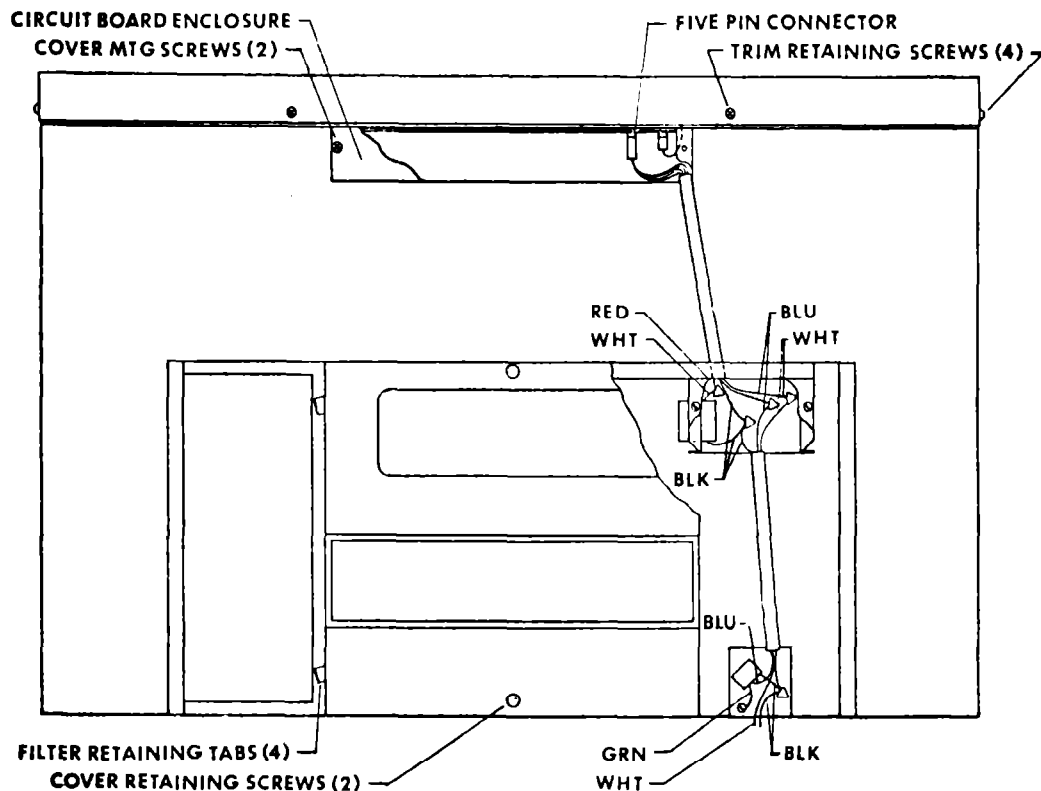

FIG. 1 INSIDE OF HOOD
2. Remove printed circuit board enclosure cover by removing two screws securing the cover. (See Figure 1.)
- b. Check connections in rear power entry box. (See Fig. 1.)
- (1) Push in filter retaining tabs and remove filter from wiring compartment.
- (2) Remove cover retaining screws and cover.
- (3) Remove wiring box covers (2).